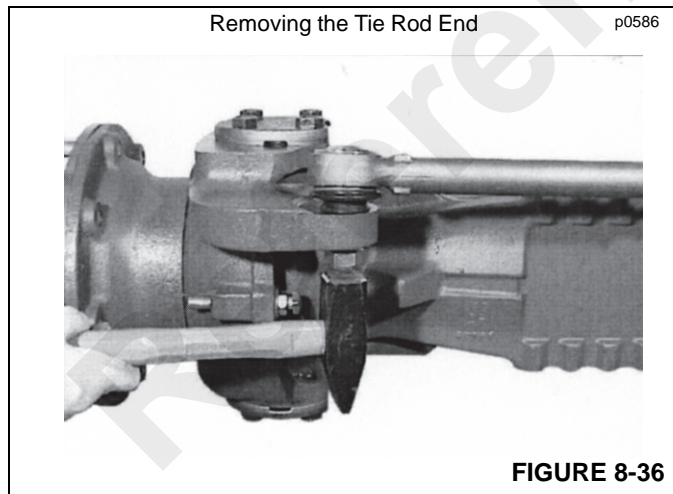

FIGURE 8-36
1. Loosen the hex nut (Figure 8-36) on one of cylinder tie rod ends until none of the threads on the tie rod end are exposed. Using a hammer, hit the nut to drive the tie rod end from the swivel housing. There is a possibility the nut could be damaged. An alternative is to use a tie rod end fork to remove the tie rod, less damage will occur.